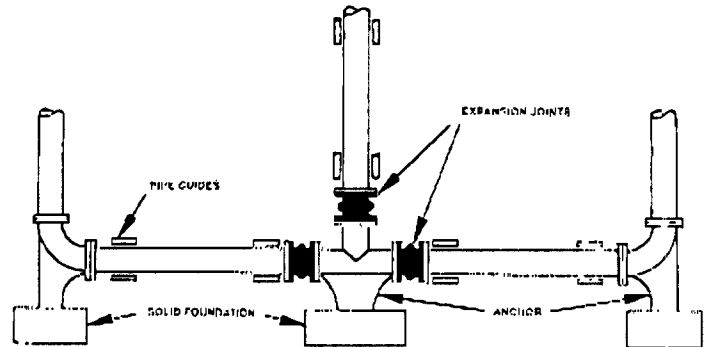

Figure 5B: Typical Piping Layout Utilizing Expansion Joints And The Proper Use Of Anchors In Branch Locations
A.3. Branch Connection Anchors. Figure 5B is another illustration of the proper anchoring that should be provided in a line with a branch connection. The anchor shown at the tee and elbow connections must be designed to withstand both the thrust and any other forces imposed on the system at those points. Again emphasis is placed on the relative location of the joints, their anchoring points and the pipe guides.